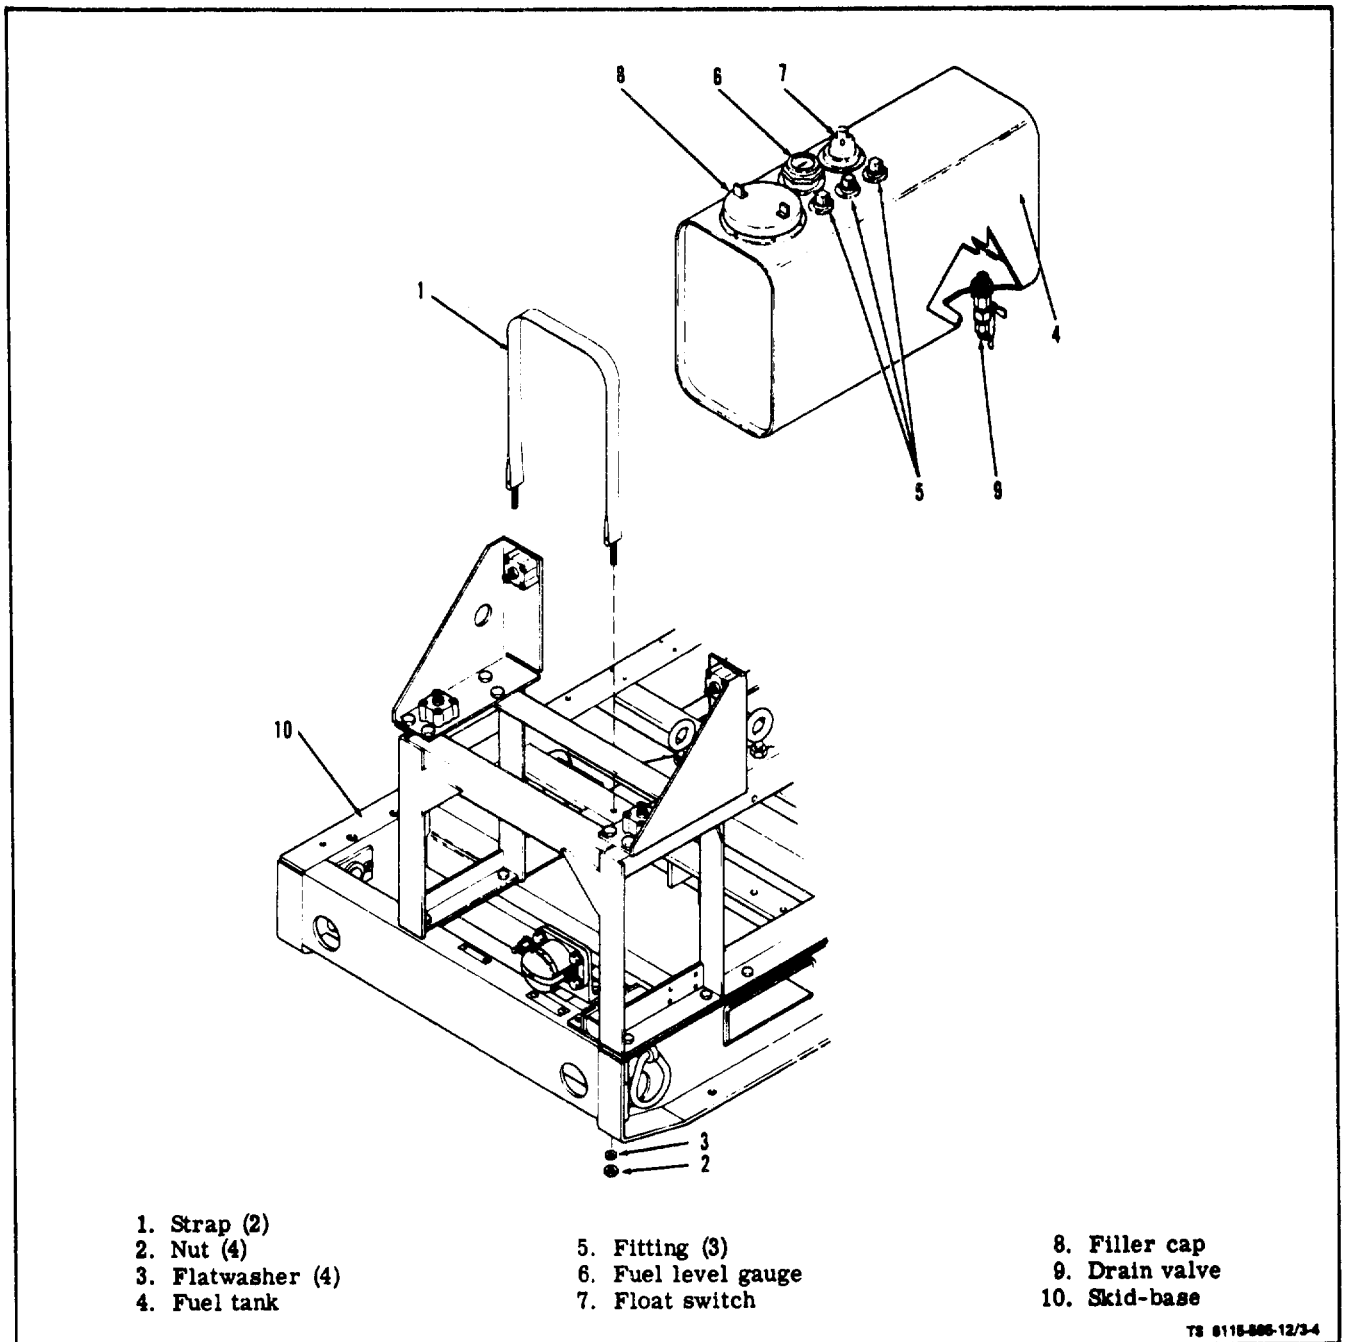

Figure 3-4. Fuel Tank
a. Cleaning and Inspection (see figure 3-4).
(1) Fuel Tank Strap Assemblies. Inspect both straps (1) for damage that would prevent them from securely holding fuel tank (4) to skid-base (10). Check that both straps are tight. Tighten straps by tightening nuts (2) and washers (3) securing each strap to skid-base.
(2) Fuel Tank. Visually check fuel tank (4) for dents or leaks. Check that filler (8) fits securely onto tank and that filler cap and surrounding area is clean. Clean using solvent and clean cloth.
(3) Fuel Level Gage. Check fuel level gage(6) for physical damage. Check that gage shows FULL when tank is full, and EMPTY when tank is empty. Notify higher level maintenance for replacement of fuel level gage.
(4) Float Switch. Inspect float switch (7) for physical damage. Check that float switch is properly attached to tank.